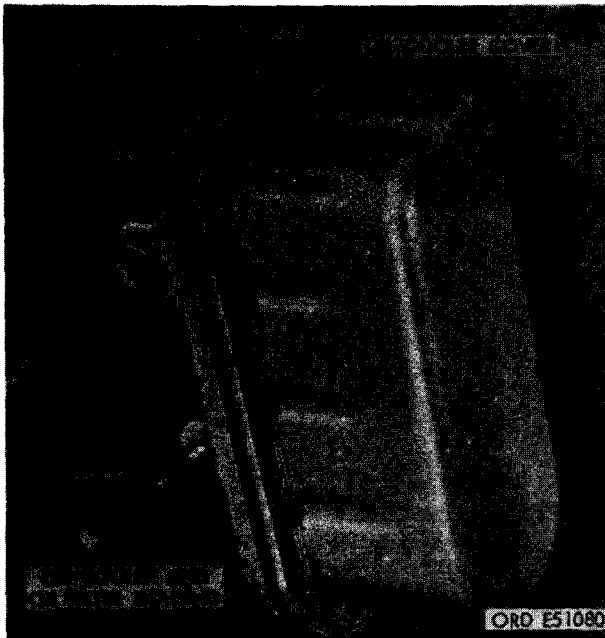

FIGURE 236. REMOVING OR INSTALLING OIL COOLER COVER.
- (2) Figure 236. (A) Remove twelve 1/4-inch plain nuts and 1/4-inch lock washers securing oil cooler cover to oil cooler and oil filter housing. (B) Remove oil cooler cover. (C) Remove and discard oil cooler cover gasket.